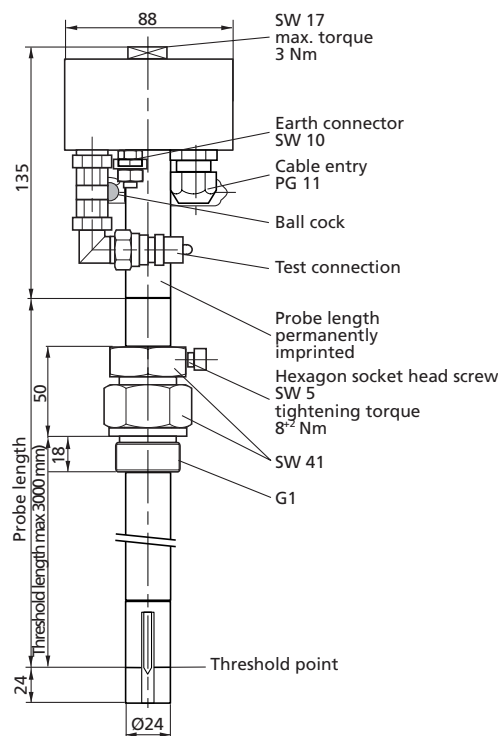

Fig. 5: Level detector type LS 300 E SP
- Connect the pressurised gas unit to the pneumatic test connection using a push-fit coupling or threaded connection (with non-return valve) (see fig. 5).
- For the purpose of additional protection from the tank open the ball cock located behind the push-fit coupling or the non-return valve (see Fig. 5). Now the gas can be fed to the PTC resistor via the test connection. The PTC resistor thus cools down to the value equivalent to immersion of the PTC resistor in liquid.